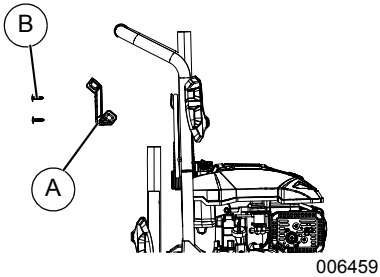

Figure 2-3. Install Gun Hook
- See Figure 2-3. Install gun hook (A) on right (back) side of handle. Secure with tree clip (B).